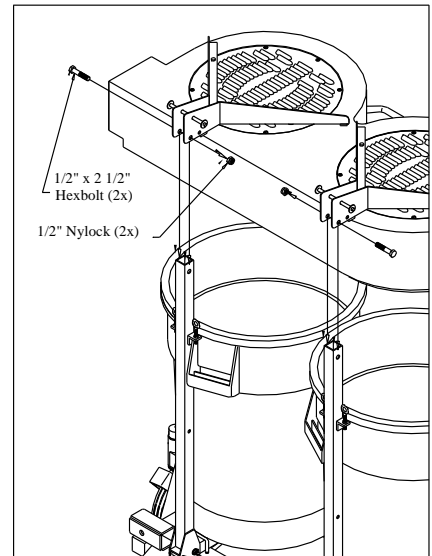

Fig. 6
6. Set top assembly on containers (21) with top support bracket capturing the vertical upright (4). Align 1/2" hole on top support to 1/2" hole on vertical upright (4). Secure molded top with 1/2" x 2 1/2" HHC's and nylock nuts. Tighten until slight drag can be felt when pivoting molded top. See fig. 6